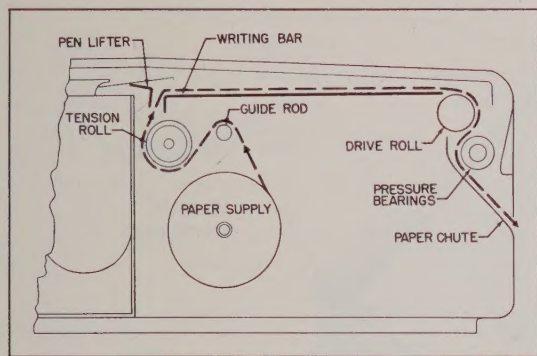

Fig. 5. Method of Loading Chart Paper
6. Lead the pointed end of the chart paper over the GUIDE ROD; under the TENSION ROLL; up and over the WRITING BAR. Fig. 5. Care should be exercised not to snag the tips of the pens or styluses with the end of the chart paper.